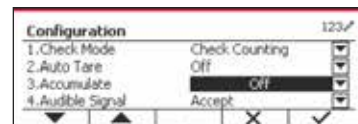

Figure 60
2. Select the list item and press the softkey corresponding to the  icon, to change setting. (See Figure 60)